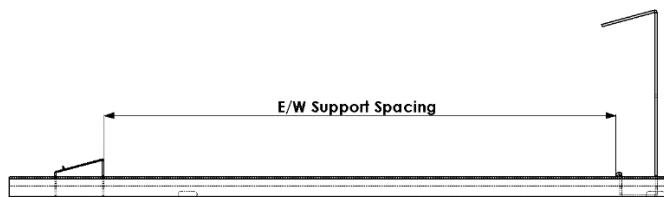

Figure 12 - First E/W Row Support Spacing
- 4 Click-in the first Top Support at the distance obtained in Step 3, with your spacing stick (see example, Figure 12).